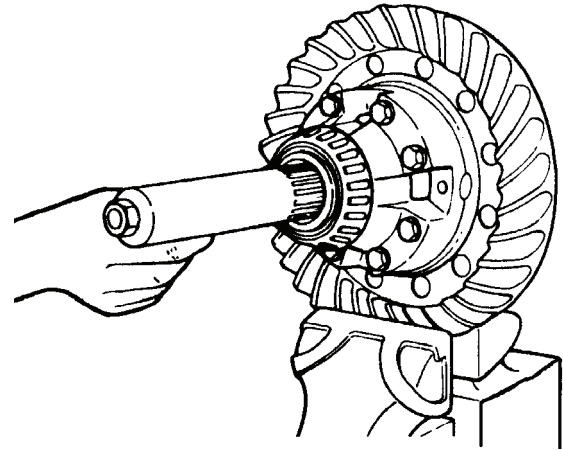

Figure 63.
- (1) A suitable “checking tool” can be made by cutting an axle shaft to an appropriate length and welding a nut on the end to accept a wrench socket. Refer to Figure 63.